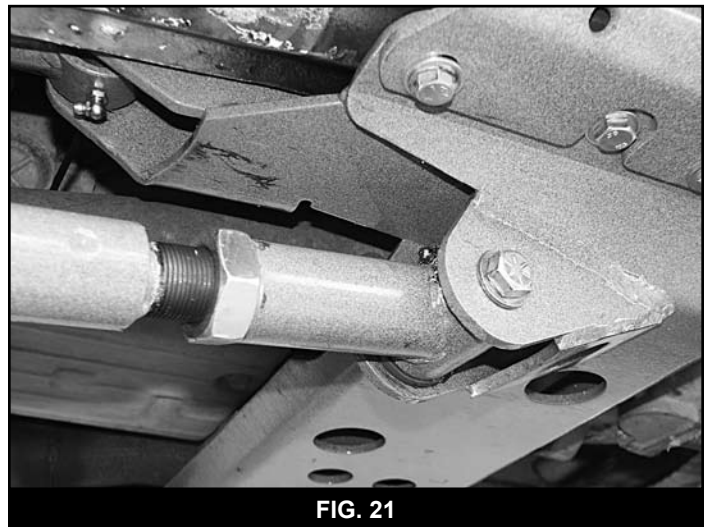

FIG. 21
55. Install the adjustable end of the lower control arms into the new lower control arm pockets in the crossmember (Fig 21). Loosely fasten the arms with 9/16" x 4-1/2" bolts, nuts and 9/16" SAE washers (BP 715). **Note:** Apply a small amount of grease to the faces of the bushings to aid in installation of the control arms.